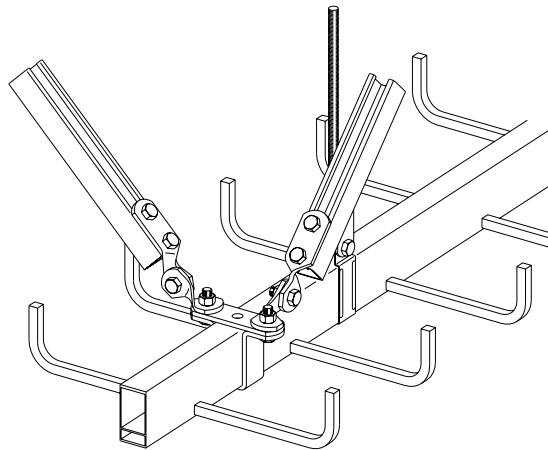

Figure 8
- 3). The adjustable hinges may be attached to different CZNM-DSC bolts as shown in Figure 8 below.